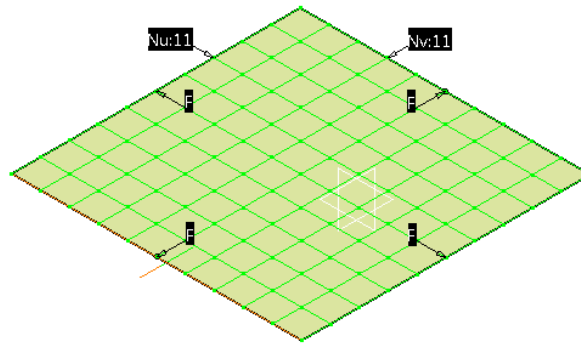

Figure 18-60 The surface after changing the *Nu* and *Nv* options
- Similarly, keep on clicking on the vertical **Nu:4** pop-up on the surface until it changes to **Nu:11**. After changing the values, the surface is displayed, as shown in Figure 18-60.